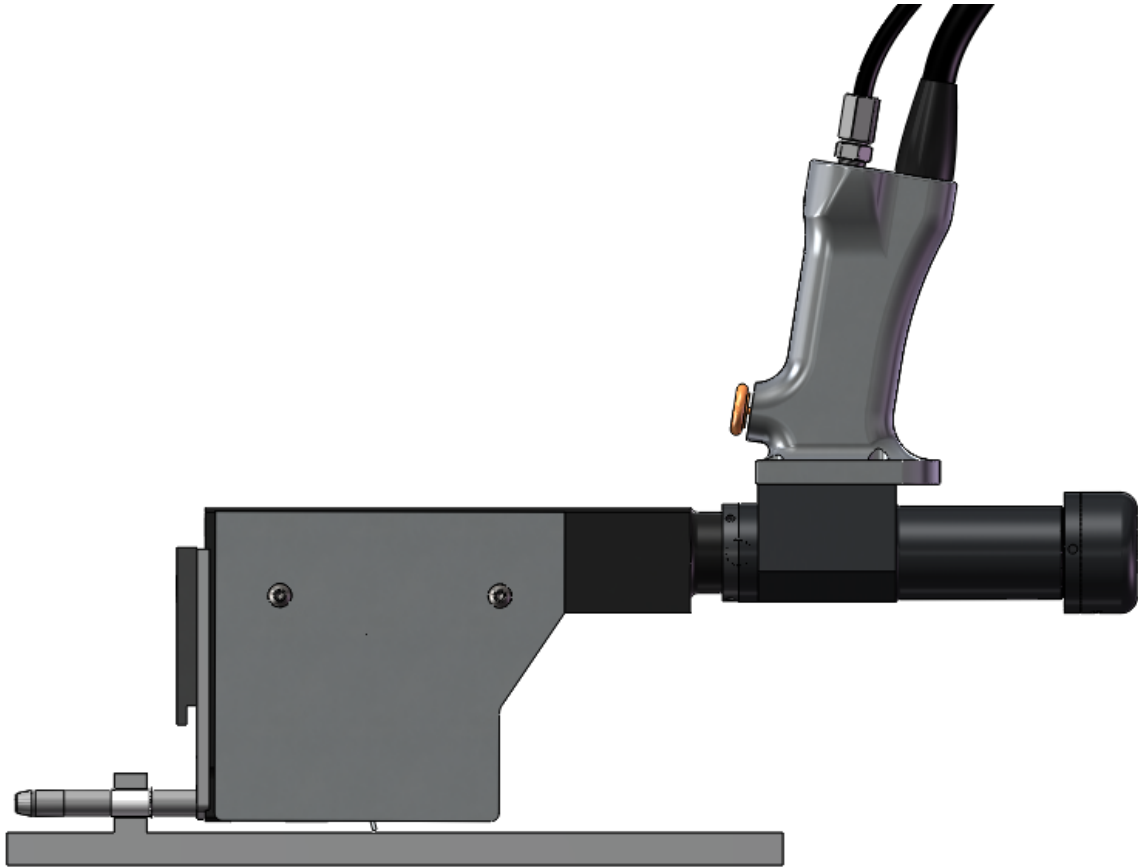

Figure 6-3
3. Position LB/LBOA combination and hook LBOA slide assembly onto mandrel tang (Figure 6-3).